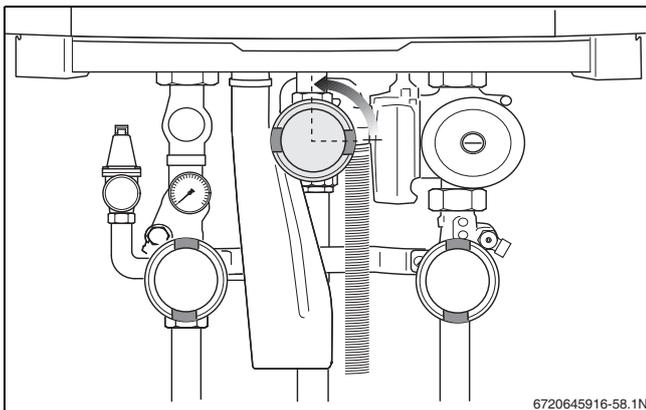

Fig. 62 Opening the gas valve
- ▶ Slowly open the gas valve by pushing on the gas valve and turning it counterclockwise through ¼ rotation (→ fig. 62). The gas valve is open when it is in the vertical position.
- ▶ Slowly open the gas valve by pushing on the gas valve and turning it ¼ rotation in an counterclockwise direction (→ fig. 62, page 34). The gas valve is open when it is in the vertical position.